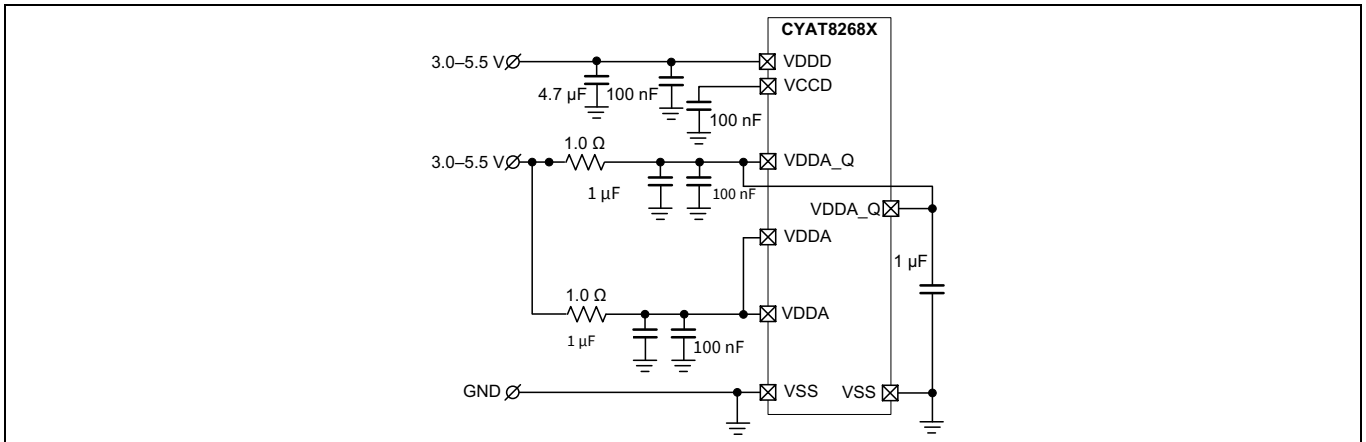
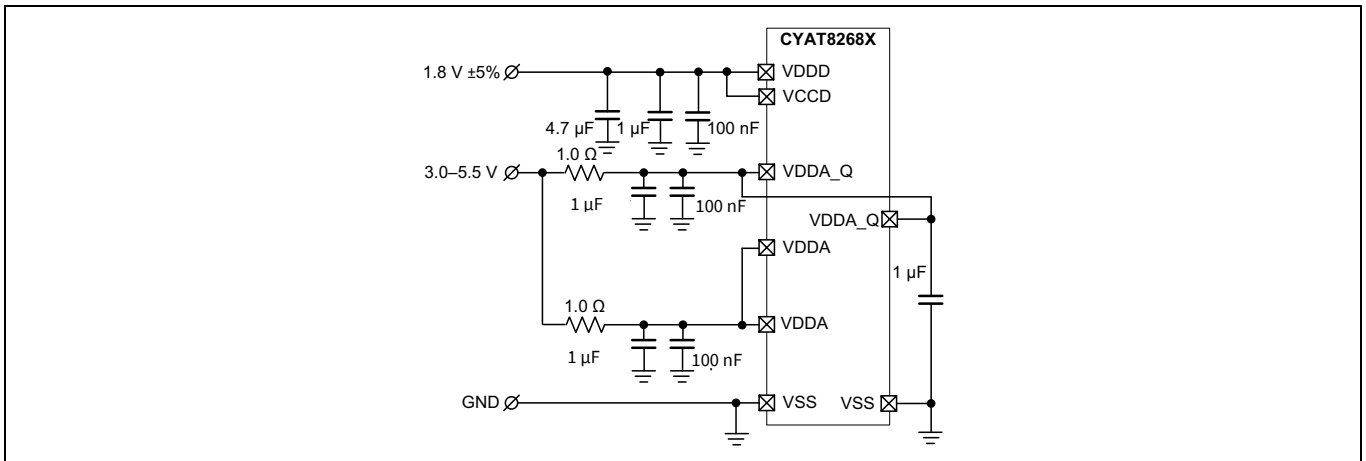

Figure 3 Dual supplies (no 1.8 V)
Figure 4 Dual supplies (inc. 1.8 V)
- 1- μ F capacitor if VCCD and VDDD are connected (shown in Figure 3 and Figure 4) or 0.1- μ F capacitor if $V_{DDD} \geq 3.0$ V.
- 1- μ F capacitor if VCCD and VDDD are connected (shown in Figure 3 and Figure 4)